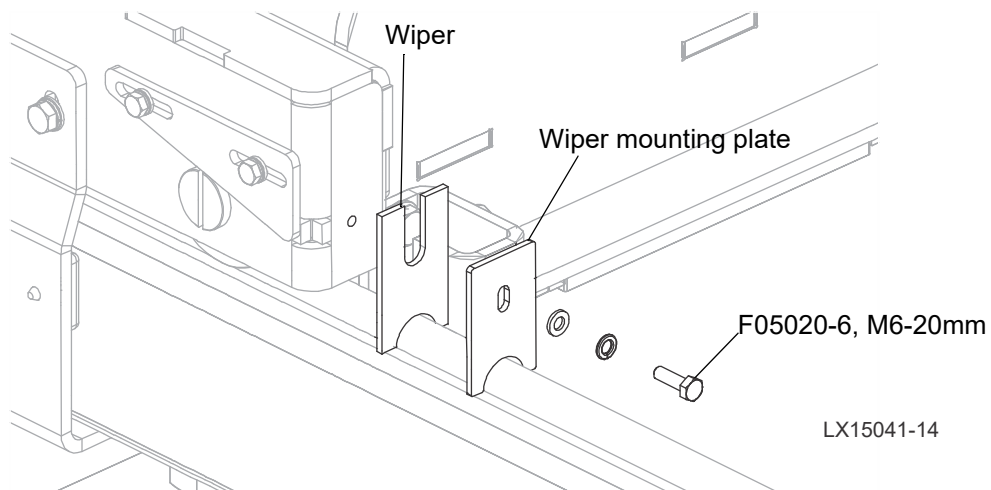

FIG. 3-14
6. Install all four the rail wipers on the mast rollers as shown in Figure 3-14.
See Figure 3-14.